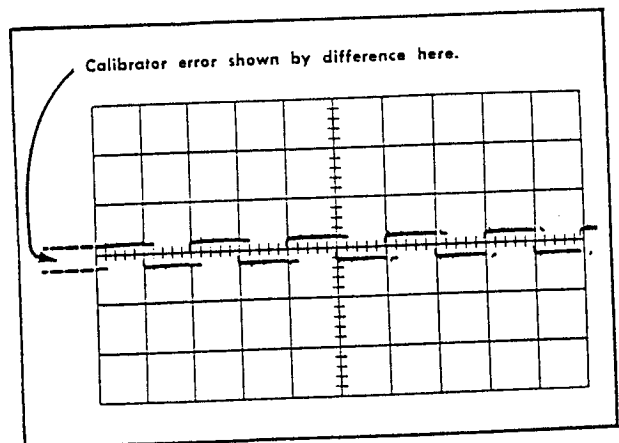

Fig. 5-19. Typical test oscilloscope display when checking amplitude accuracy of Calibrator (sweep rate, 0.5 millisecond/division).
- x. Check—Difference between Calibrator output and standard amplitude calibrator output less than 1 division ( $\pm 1\%$ ); see Fig. 5-19.
- ab. Check—Difference between Type 453 Calibrator output and standard amplitude calibrator output less than 1 division ( $\pm 1\%$ ); see Fig. 5-19.